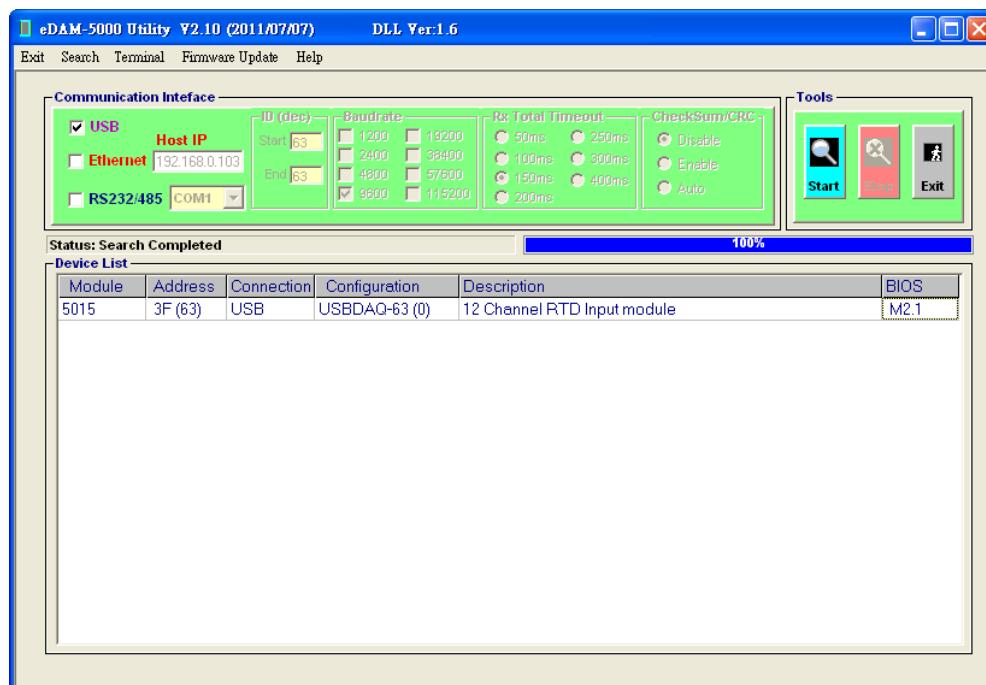

Figure -3
3. Executes provided L-5000 utility called “E5KUtility.exe” ( see Figure -3)